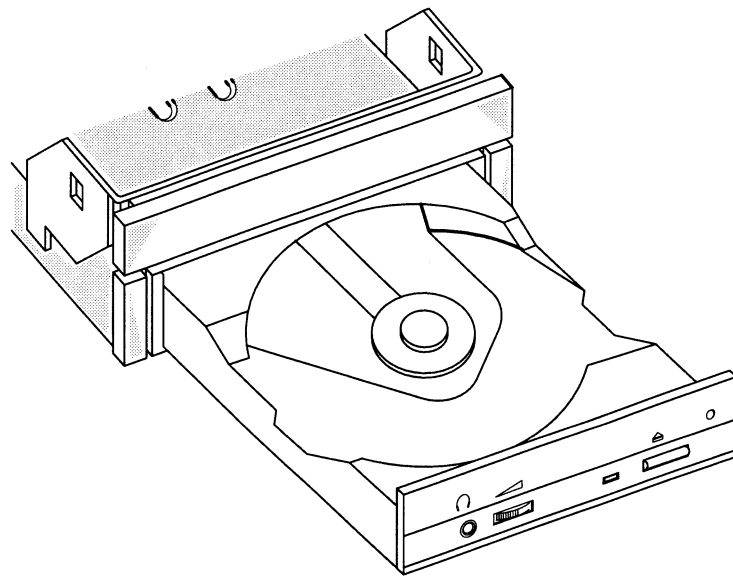

Figure 11 Opening the CD-ROM drawer
5. The CD-ROM drawer will open about 25 millimeters (1 inch). Carefully pull open the drawer of the CD-ROM drive to expose the CD-ROM loading area shown in Figure 11.
1. Make sure the CD-ROM is not upside down in the drive. Refer to Figure 11 for the proper way to insert the CD-ROM in the drive.